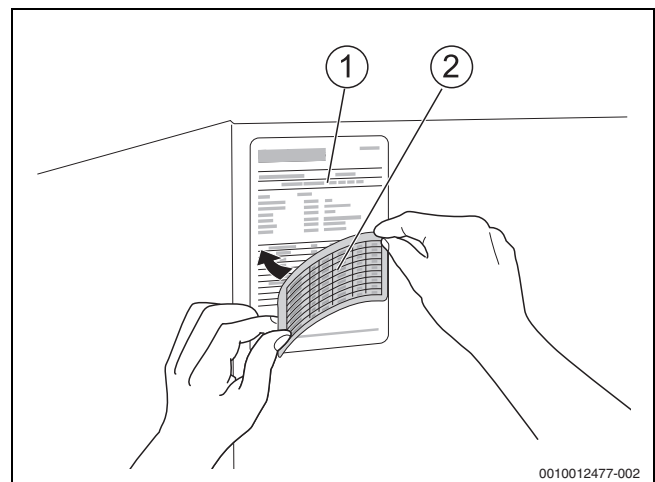

Fig. 27 Updating the data plate
- ▶ Affix the label provided for the supplied gas type, according to the gas flow restrictor, over the corresponding area on the existing boiler data plate (→Fig. 27, [1]) (→Fig. 27, [2]).